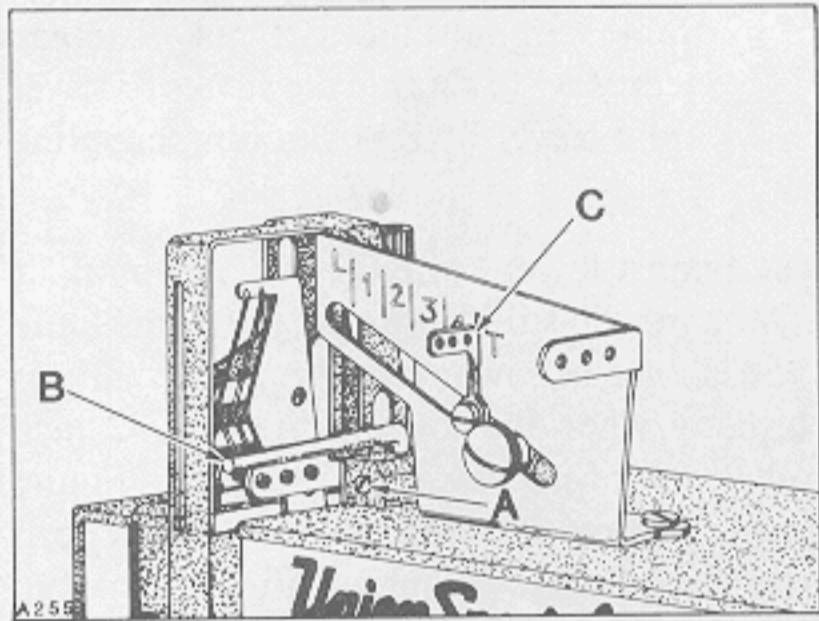

Fig.26
adjustable eyelet (C, Fig. 26) set at "T". Loosen screew (A) and position strike-off (B) as specified and retighten screw. Thread tension on needle thread should be just enough to pull up uniform stitches. Thread tension applied on looper thread should be just enough to steady thread.